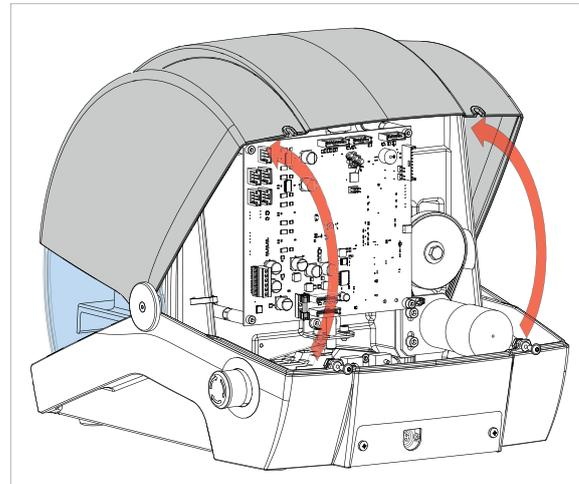

Fig. 45
- 3) Rotate the cover towards the front of the machine (Fig. 45).